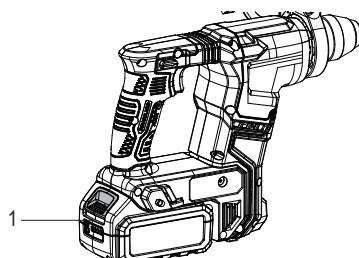

Fig.9
Press the rail lock release (1) and slide the battery pack out (Fig.9).